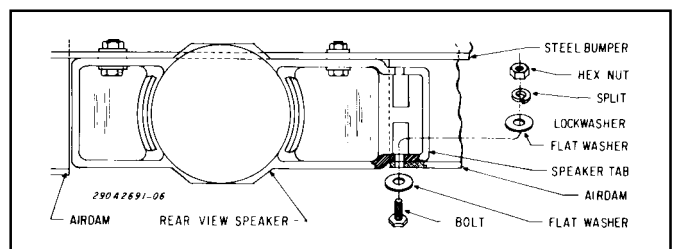

Figure 6. Air Dam to Speaker Attachment.
8. Secure the air dam to the speaker using a #8-32 screw, 0.88 O.D. washer, lockwasher and nut as shown in figure 6.